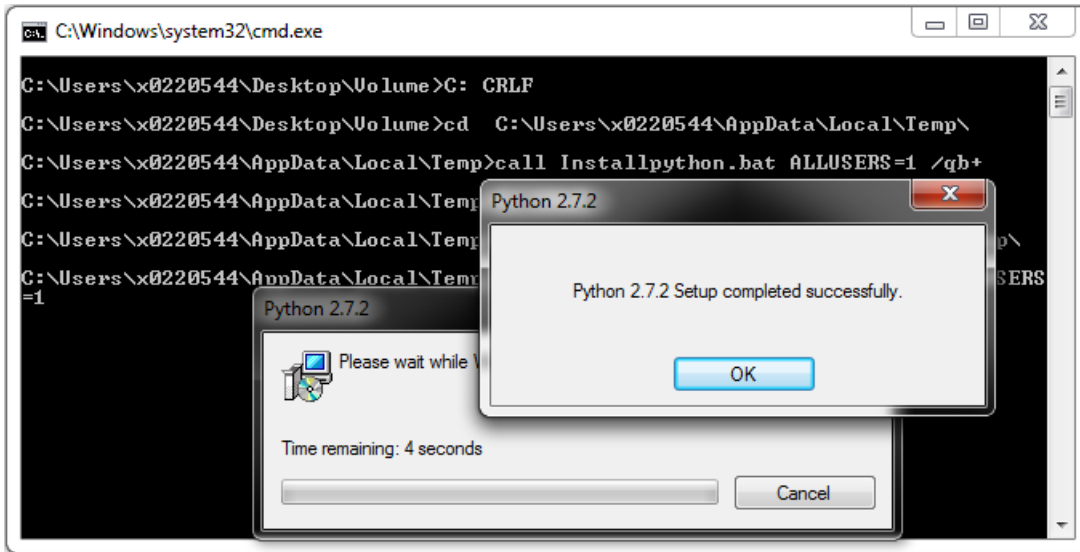

Figure 21. Python Installation Complete
- After the installation of the GUI, Python installation initiates. Once python is installed, a screen as shown in Figure 21 appears. Click the **OK** button to proceed with USB2ANY installation.